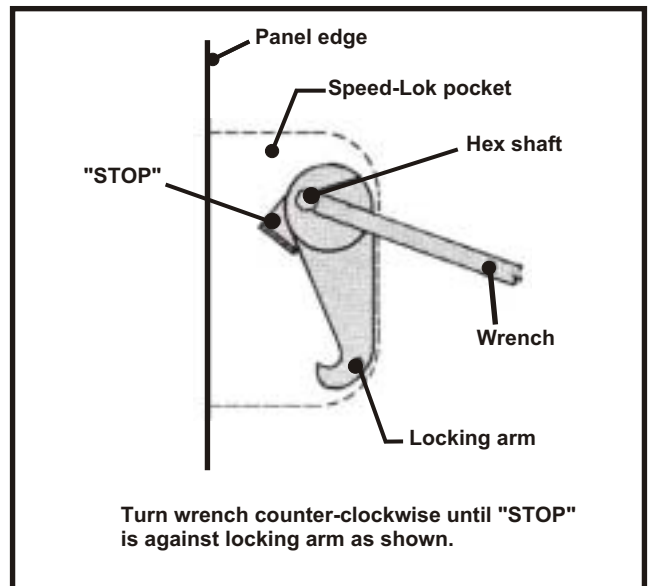

Fig. 2
- A. Before attempting to erect any prefab panels, familiarize yourself with the operation of the locks. Study the illustrations and instructions shown in fig. 2, 3, and 4. Note: If the locks are located in a corner so that the wrench cannot be positioned as shown, perform the locking operation in steps, repositioning the wrench between steps.